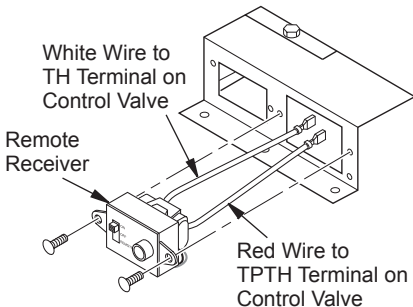

Figure 31 - Installing Remote Receiver
5. Connect wires from remote receiver to control valve as shown in Figure 31.
6. Install remote receiver unit onto remote/blower bracket using screws provided (see Figure 31).